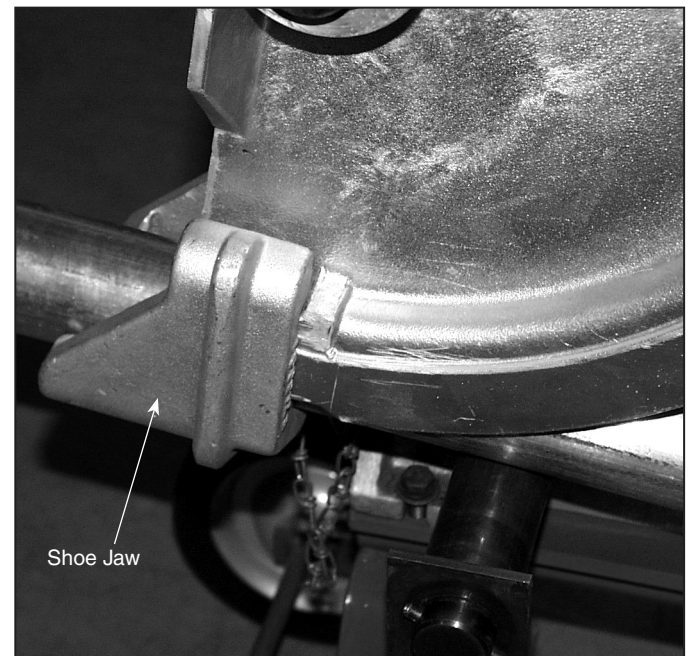

Fig. 8
- When the conduit is properly positioned, install the shoe jaw on the shoe until it rests against the stops, figure 8.